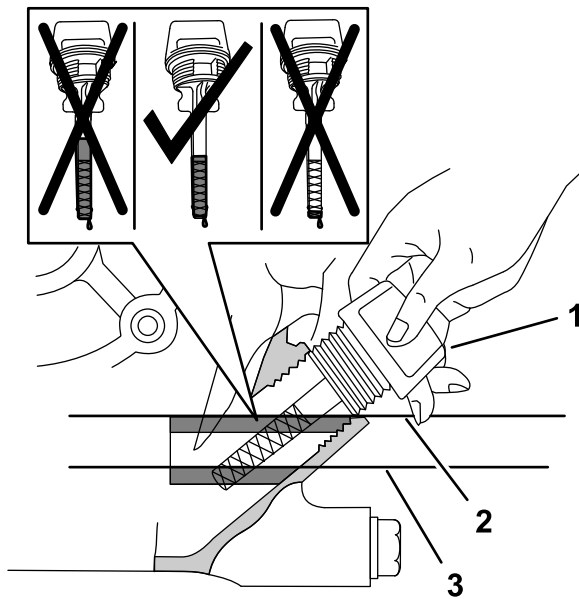

Figure 75
3. Insert the dipstick from the engine as shown in Figure 75.
4. Remove the dipstick from the filler neck and look at the oil level in the dipstick (Figure 75).
Note: The engine oil level must cover the hatch-marked area of the dipstick (Figure 75).